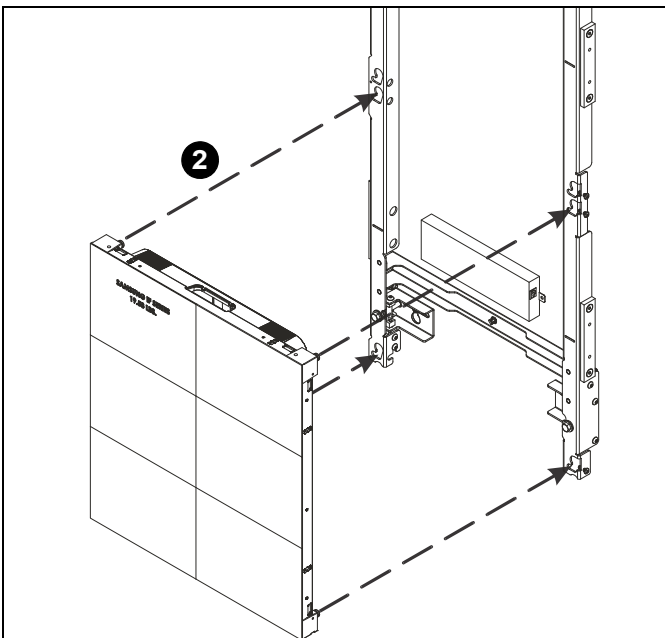

Figure 15
3. Lower display until contacting the bottom of mounting holes. (See Figure 15)